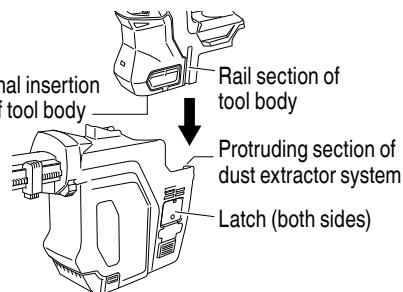

Fig. 3
### (1) Attaching the dust extractor system (Fig. 3)